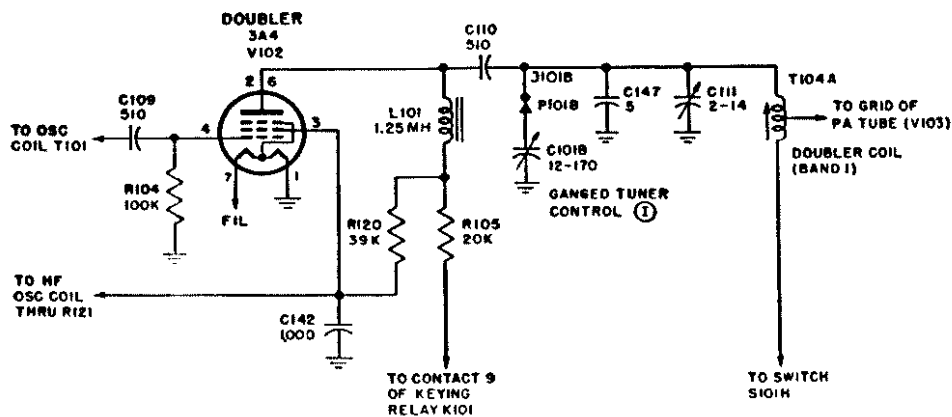

Figure 72. Frequency doubler stage V102, simplified schematic
92. Frequency Doubler V102, Tube Type 3A4 (fig. 72)